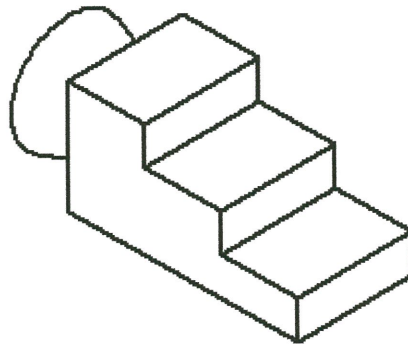

FIGURE Q6
- (b) Create a suitable process flow diagram and explain the process to manufacture the product shown in Figure Q6 made by this indirect soft tooling method.